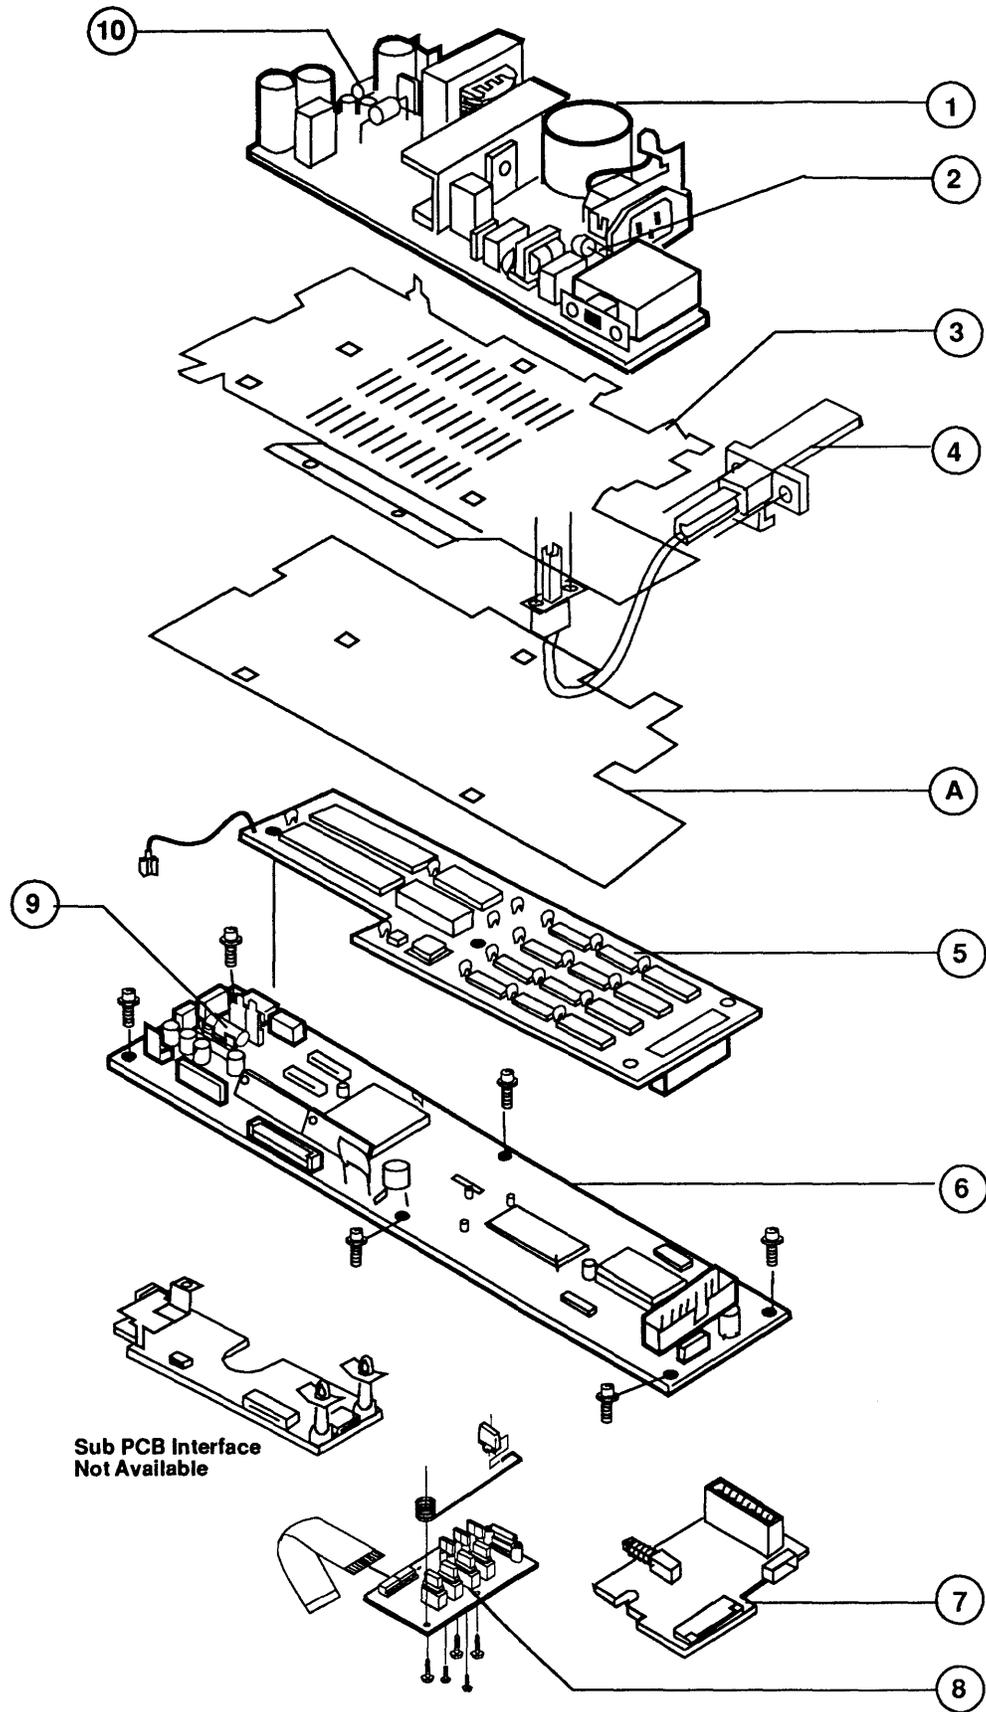

FIGURE 7
□ IMAGEWRITER II/L PCBs (Figure 7)
Note: The parts in Figure 7 use the following screws, E-clips, etc.:
Note: Item A in Figure 7 is not available separately. It is part of the ground plate assembly for the 220/240 V power supply.